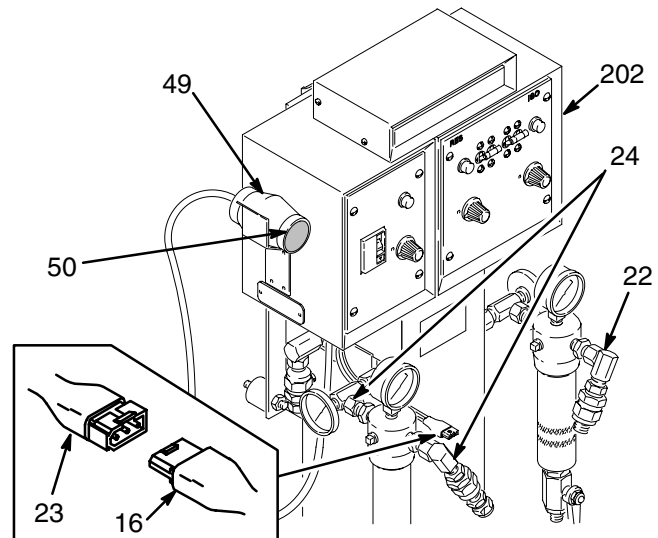

Fig. 5
- Do not install any fluid shutoff device as the fluid outlet of either heater or filter! See Ref 24, Fig. 5.